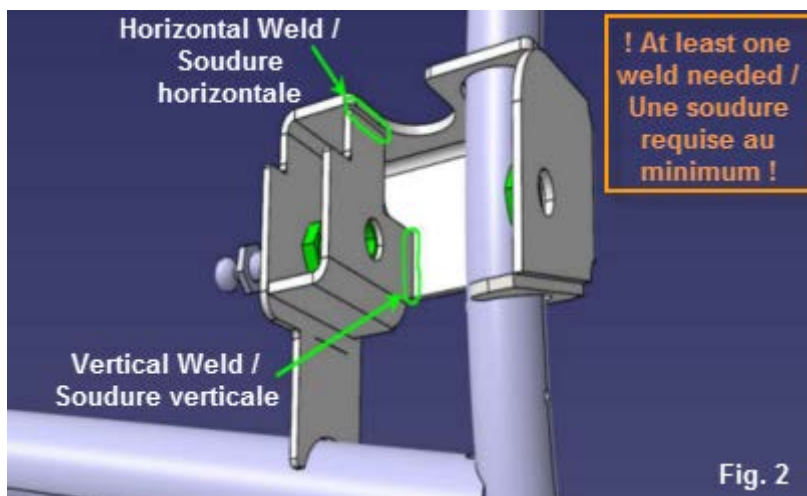

Fig. 2
2. The inside of the bracket must be welded *at least at one* of the two points shown on fig.2 (horizontal or vertical weld).